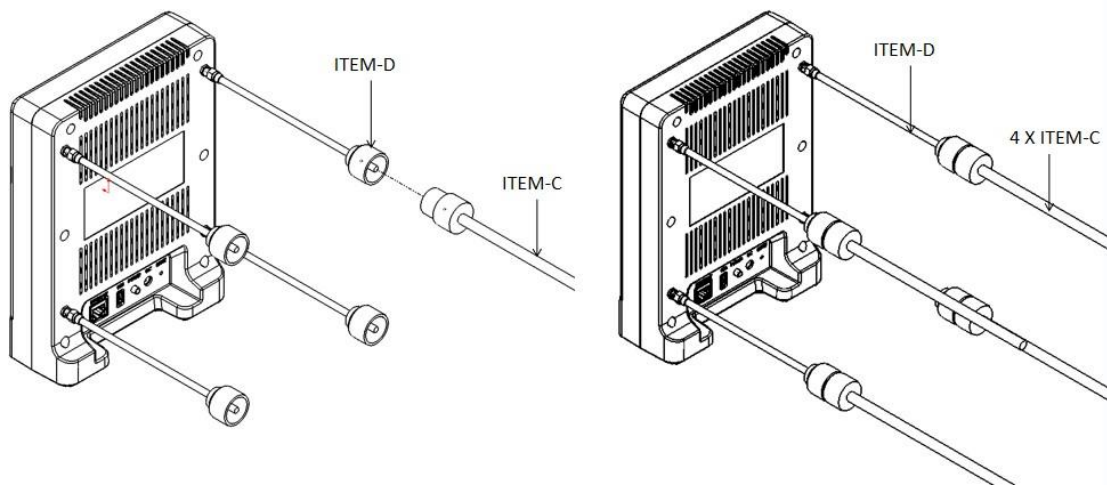
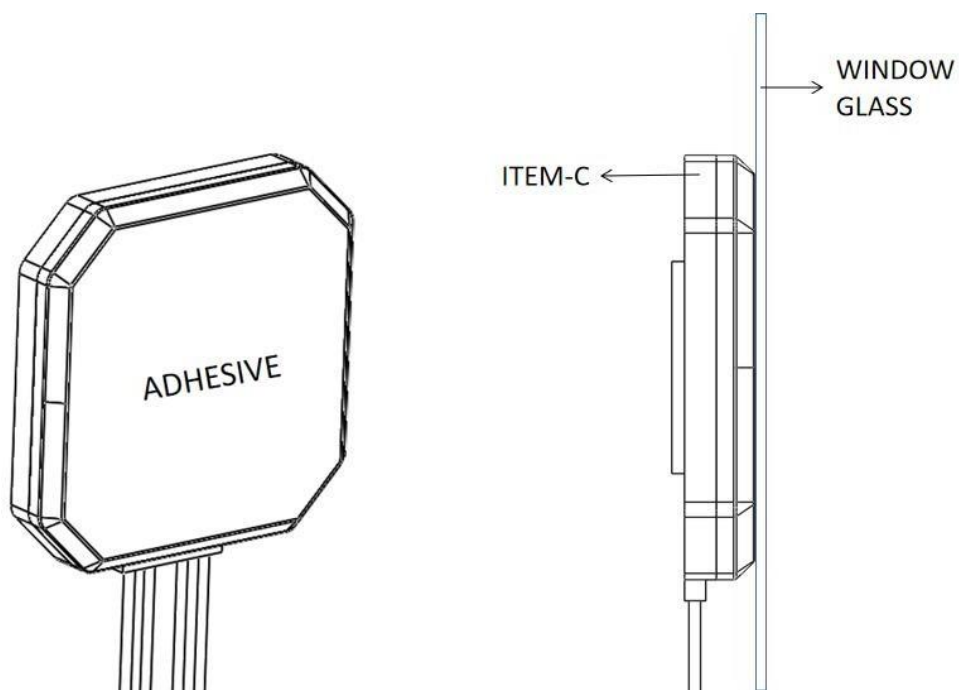

Figure 14 External Antenna Cable Installation - 2
Figure 16 DeltaLINK External Antenna Installation in Window
- d) Connect other end of the cable assembly (Item-D) to the N-type mating connector on the external antenna (Item - C) as shown in Figure 14.
- e) Repeat the same steps for all (4) cable connections.
- g) Peel off the outer cover layer of the sticky tape on the back of the external antenna and stick to the glass surface as shown in Figure 16.